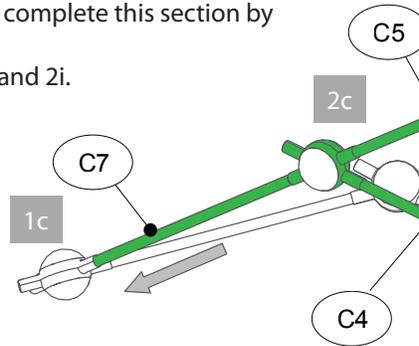

Fig. 6a - Front View
- Continue by connecting Arms and 45° Hubs following the order and pattern in Figs. 6a/6b and complete this section by connecting the remaining C10 Arm to the 45° Hub (1i) from Section 1.